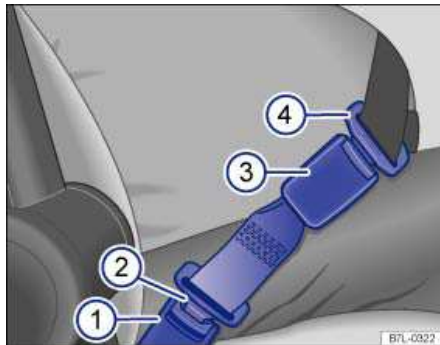
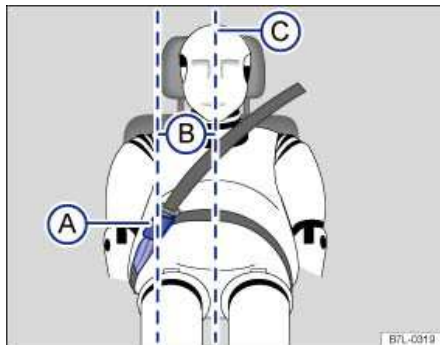

Fig. 85 A safety belt extender properly attached to the factory-installed safety belt.
Fig. 86 Positioning of the safety belt extender.
**Key to fig. 85:**
- (1) Vehicle safety belt buckle.
- (2) Buckle tongue on the safety belt extender.
- (3) Safety belt buckle on the safety belt extender.
- (4) Safety belt buckle tongue on the factory-installed safety belt.
**Key to fig. 86:**
- (A) Safety belt buckle on the safety belt extender.
- (B) Distance between the safety belt buckle on the safety belt extender and the centerline of the person using the safety belt extender. **The distance must be more than 6 inches (15 cm)!**
- (C) Centerline of the person using the safety belt extender.
- Insert the buckle tongue on the safety belt extender ⇒ fig. 85 \(2\) into the vehicle belt buckle for the seat where the safety belt extender is being used \(1\).
- Never use a safety belt extender if the distance (B) between the front edge of the safety belt extender buckle (A) and the centerline of the person using the safety belt extender ⇒ fig. 86 \(C\) is less than 6 inches (15 cm).